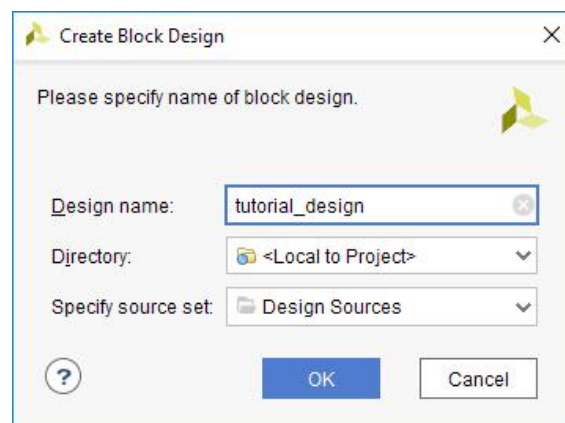

Figure 5
2. In the new **Create Block Design** window (Figure 5):